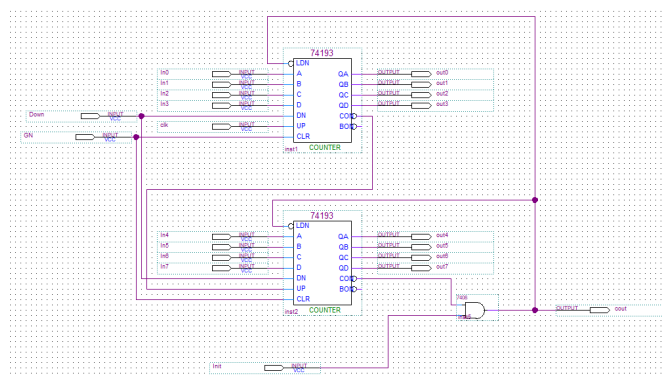

Figure 2
- A clearer picture of Figure2 exists in LAB2/ CounterDivider folder.